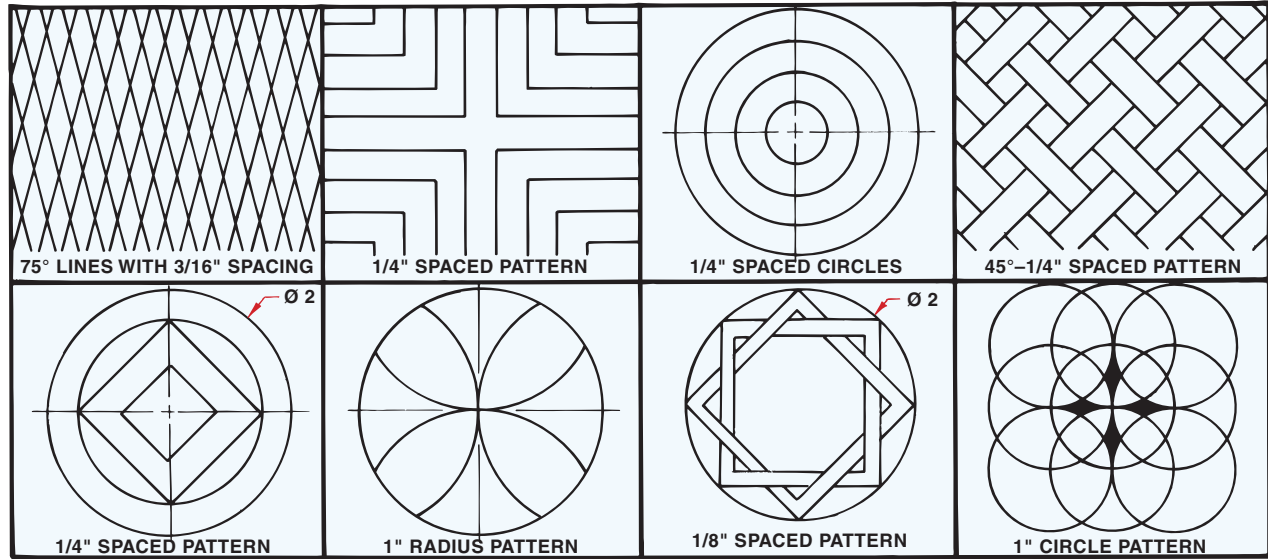

Figure 2-38 Practice drawing the line work.
3. Practice drawing the line work in **Figure 2-38** with drafting instruments, freehand, and with a CAD system.